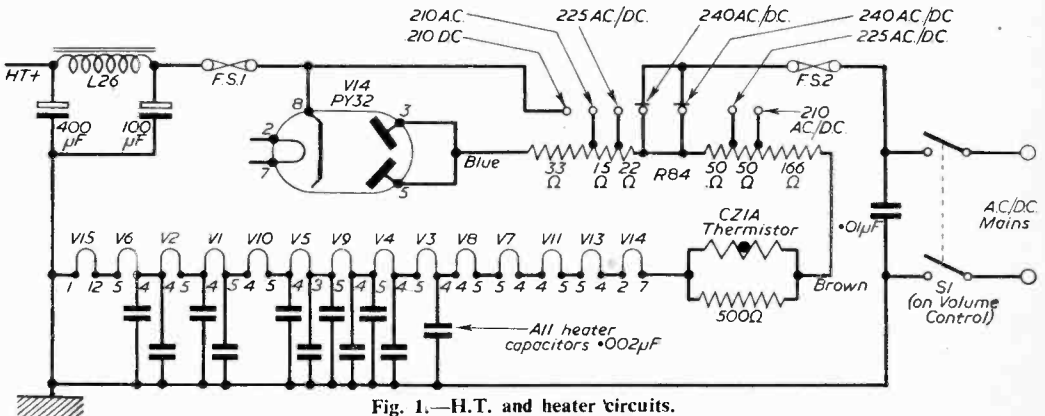

Fig. 1.—H.T. and heater circuits.
THESE receivers and several others use a Plessey dual band chassis. Most makes use Mullard valves and tubes but some, such as the Defiant fit Mazda. There are minor differences but the chassis layout is practically identical and the circuit in Fig. 1 of the Regentone is representative of all the models.
H.T. Supply (Fig. 1)
The next common complaint is due to a defective EY51 (U25 in Defiant) EHT rectifier (see Fig. 1). (Before going further we would make it clear that EY51 and U25 valves are *not* interchangeable. The EY51 and its equivalents have a 6.3V heater, the U25 a 2V heater.) A failing EHT rectifier causes the position of the brilliance and contrast controls to become critical, i.e., if they are advanced beyond a certain point the picture expands, goes out of focus and disappears.